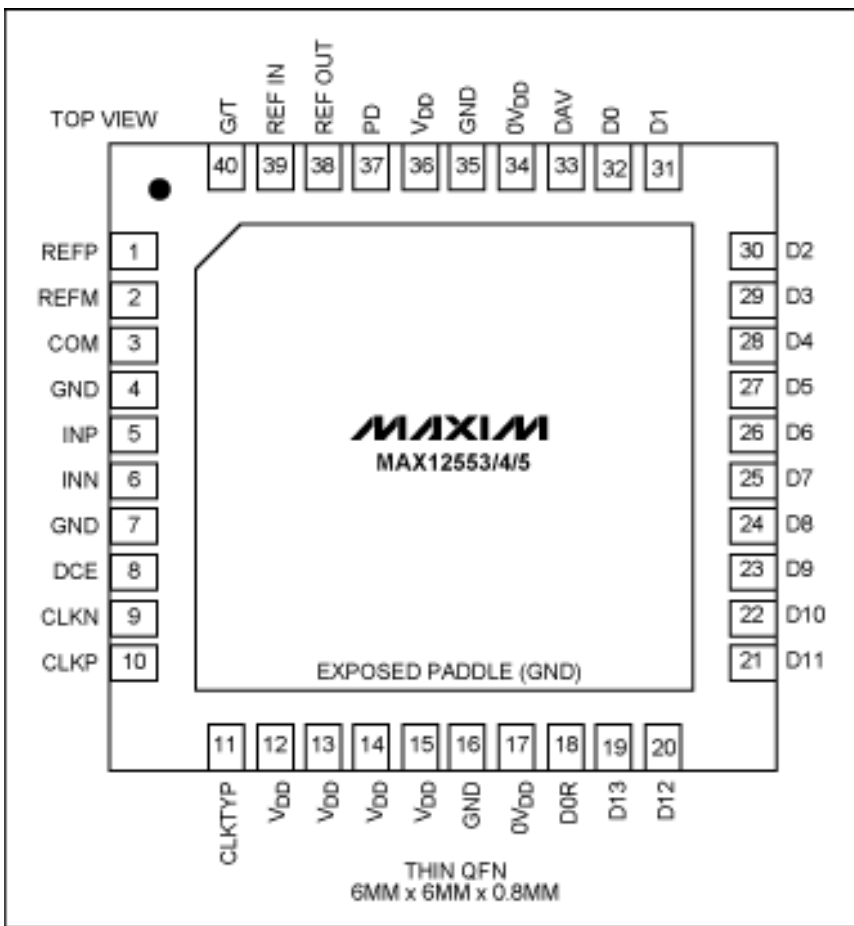
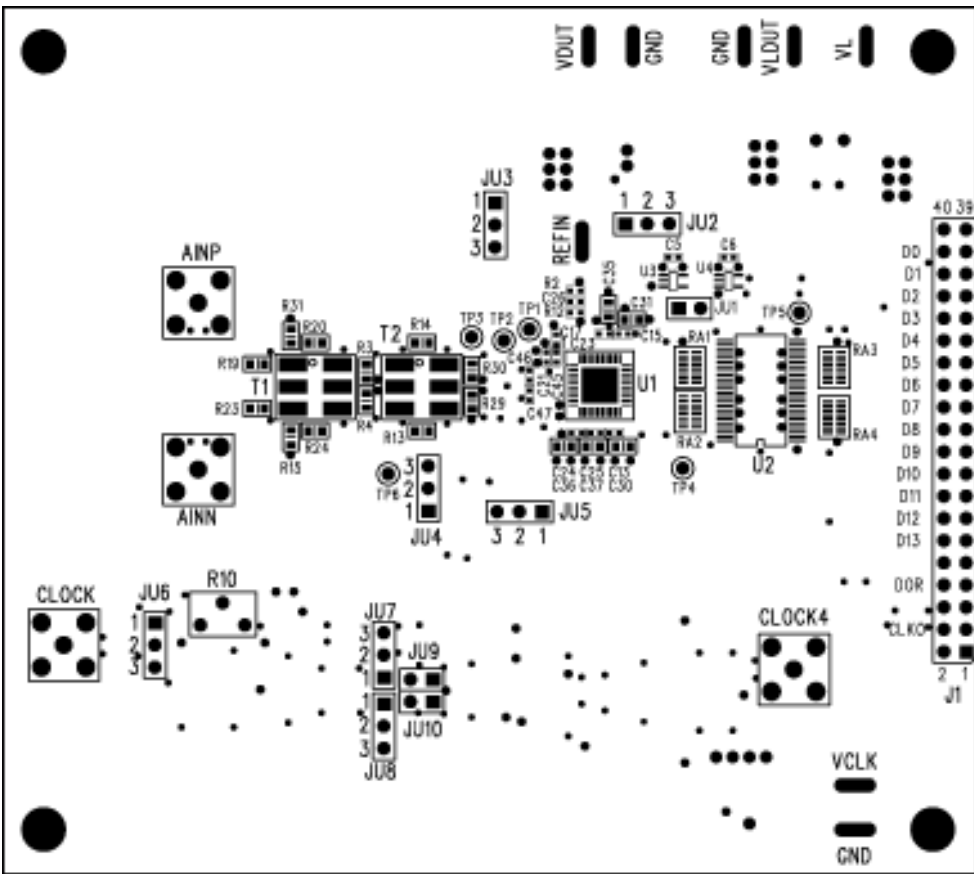

Figure 1. MAX12553, MAX12554, and MAX12555 pinout.
Figure 4. EV Kit top-side silkscreen and component placement.
Figure 1 for an illustration of the pinout and **Table 1** for the pin description for this family of ADCs. The evaluation (EV) kit includes multiple options that allow for single-ended or differential clock, single-ended or differential clock analog input, internal/external reference, etc. Therefore, the EV kit schematics (**Figure 2** and **Figure 3**) accommodate many more external components and configurations than would be used in a normal application. **Figure 4** and **Figure 5**, finally, provide the silkscreen and component placement for the top and the bottom layer of the EV kit.
(Refer to Figure 4 and Figure 5)